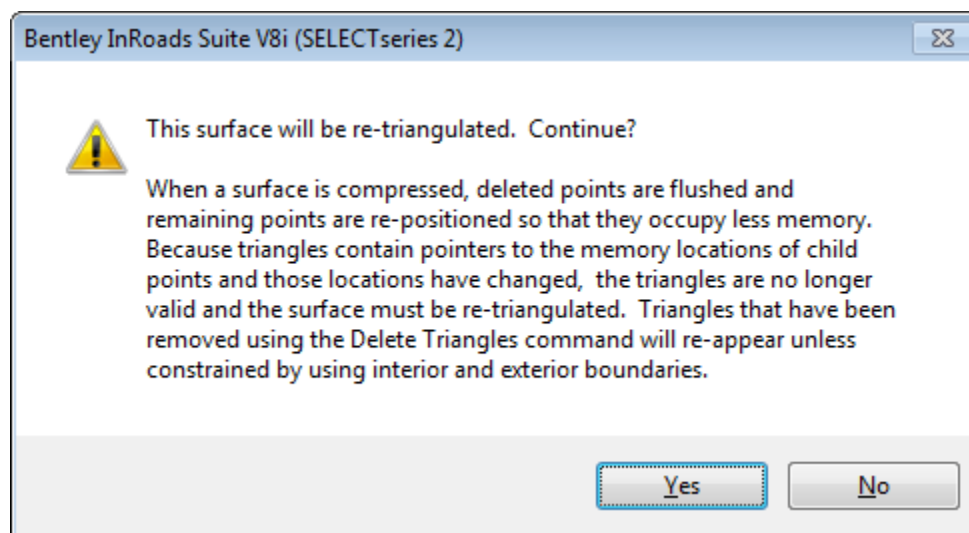

Figure L7-3 Re-Triangulate Message Box
9.	<p>Click Apply.</p> <p>A dialog box will appear that warns that the Surface will be re-triangulated. (See Figure L7-3 as shown below).</p> <p>Generates a re-triangulate warning box.</p>